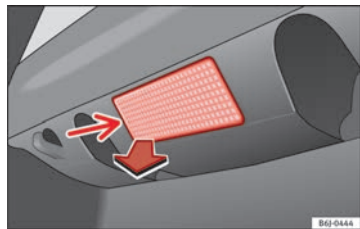

Fig. 187 Luggage compartment light.
- Remove the tulip-shaped fitting by pressing on its inside edge (arrow) using the flat side of a screwdriver ⇒ Fig. 187.